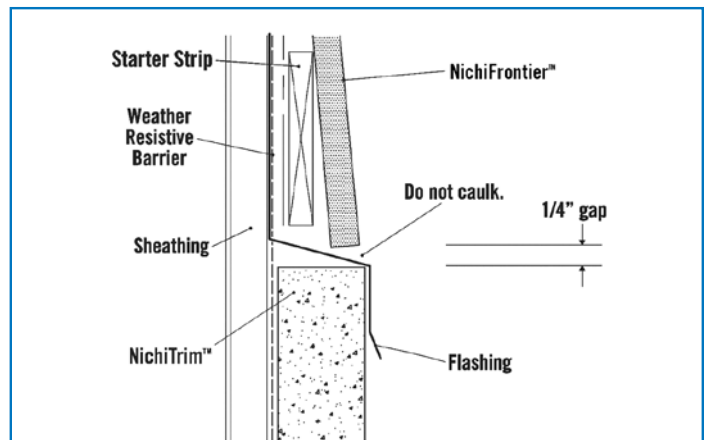

Fig. 11.2
- **All horizontal trim must be flashed. Leave a 1/4" gap between the siding and flashing. Do not caulk this gap.** Do not use raw aluminum flashings. Flashings must be galvanized, anodized or PVC coated. (Fig. 11.2)